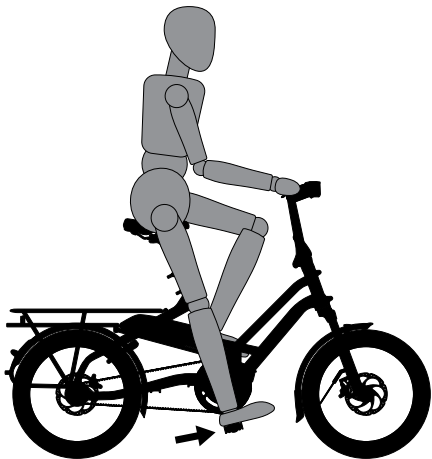

fig. 8
1. **Up and Down Adjustment.** To check for correct saddle height (fig. 8):